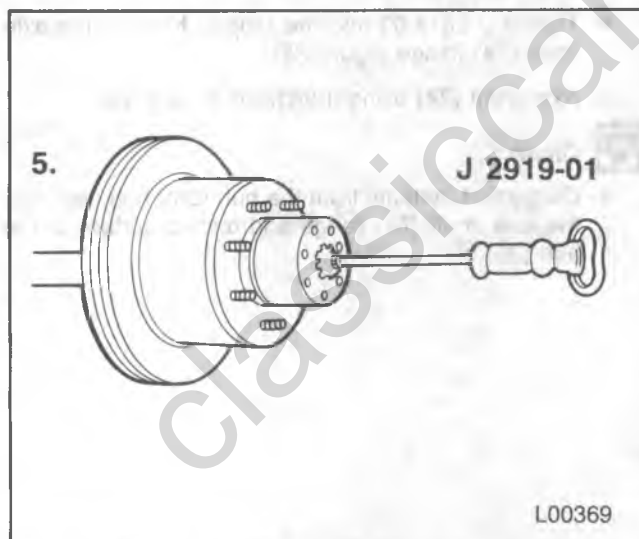

Figure 35 — Removing/Installing the Axle Shaft
1. Bolts (70) and washers (71).
2. Hub cap (72).
- Thread J 2619-01 into the tapped hole on the axle shaft (74) flange (figure 35).
3. Axle shaft (74) using J 2619-01 (figure 35).
1. Axle shaft (74).
- Tap the axle shaft (74) into position using J 2619-01 (figure 35).
- Index the axle shaft (74) splines into the hub (86) splines.
2. Gasket (73).
3. Hub cap (72).
4. Washers (71) and bolts (70).